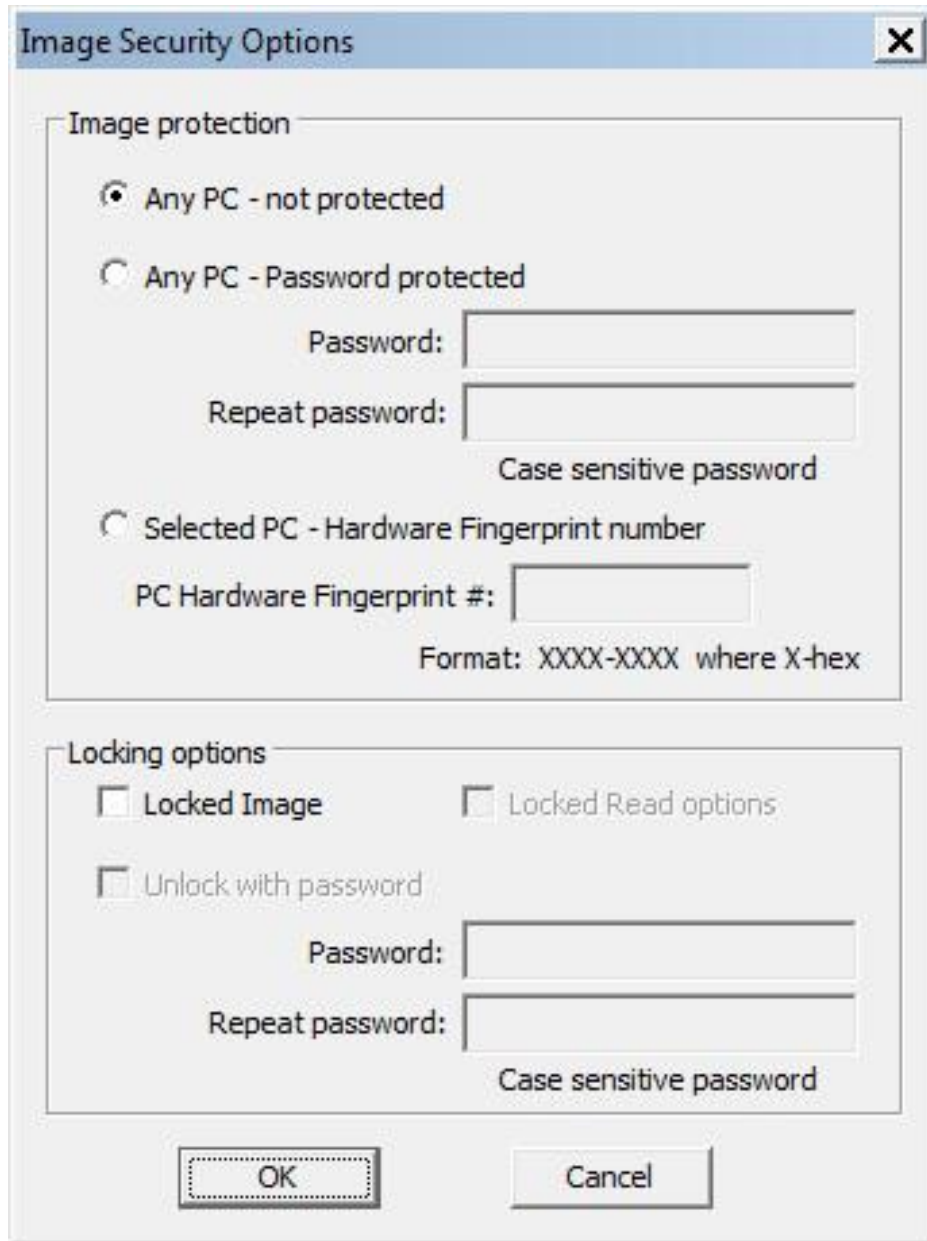

Figure 11.1: Image Options.
When creating a new image it is recommended to select the **File**→**New Setup** from pull down menu to automatically set the default option on all parameters and names used in the programmer. Next, choose the desired processor, code file and programming options (see all available options described in this manual). When this is done, verify if programmer works as expected. Subsequently, the current setup and code file can be saved as an image file. Select the **File**→**Save Image as....** The following dialog will be displayed (Figure 11.1) that allows to select desired image options.
The screen shown in Figure 11.1 allows the user configure what type of security will be used to protect the image file. Three options are available, however for all three options the contents of the code file are always encrypted and cannot be read.
3. **Selected PC - Hardware Fingerprint number** - image can be opened only on the dedicated computer with the same hardware fingerprint number as the number entered in Figure 11.1 under "Selected PC - Hardware Fingerprint number". An example usage scenario would involve calling an intended user to provide the hardware fingerprint number of their computer and entering it within this configuration window. This will restrict opening this image to only the dedicated computer running FlashPro-ARM Programmer software.
The screen shown in Figure 11.1 also allows the user to configure what type of locking options will be used for the image.